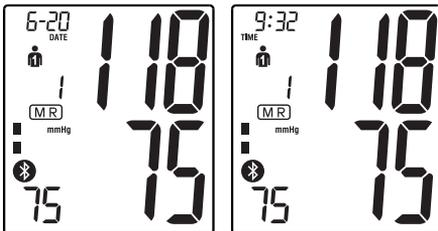

Fig. 4
- The device will display the average score of the last 3 measurements and the last measurement **MR** (FIG. 4).